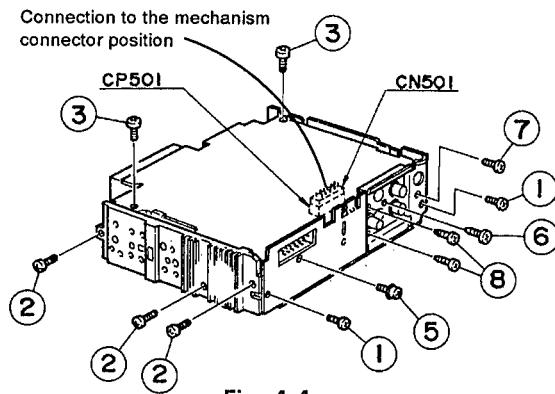

Fig. 4-4
- ◆ Removing the main board assembly (with rear panel) (See Fig. 4-4)
1. Remove two screws ① retaining the rear panel to the chassis.
2. Remove one screw ② A retaining the IC to the heat sink.
3. Remove two screws ③ retaining the main board assembly.
5. Remove two screws ④ to remove the heat sink.
- ◆ Removing the rear panel (See Fig. 4-4)